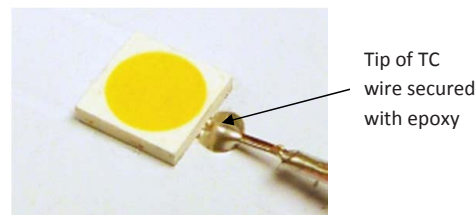

Figure 5. Photo showing actual placement of TC wire secured with thermal conductive epoxy. The thermal epoxy volume should be kept to minimum as shown.
The recommended location of the sensor pad is right next to the cathode of the LUXEON emitter on the PCB, as shown in Figure 4 and Figure 5. To ensure accurate reading, the thermocouple (TC) tip must make direct contact to the copper of the PCB onto which the LUXEON emitter cathode pad is soldered, i.e. any solder mask or other masking layer must be first removed before mounting the thermocouple onto the PCB. The tip of the TC wire where two dissimilar metals are welded should be placed as close as possible to the LUXEON emitter package on the exposed cathode copper layer as shown in Figure 4. The thermal resistance  $R\theta_{j-s}$  between the sensor pad and the LUXEON emitter junction was experimentally determined on FR4 PCBs for the two different designs (see Table 1). The junction temperature can then be calculated as follows: